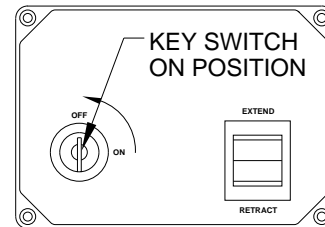

FIGURE 2
6. Turn the KEY SWITCH to the off position and remove the key. (See Figure 2)